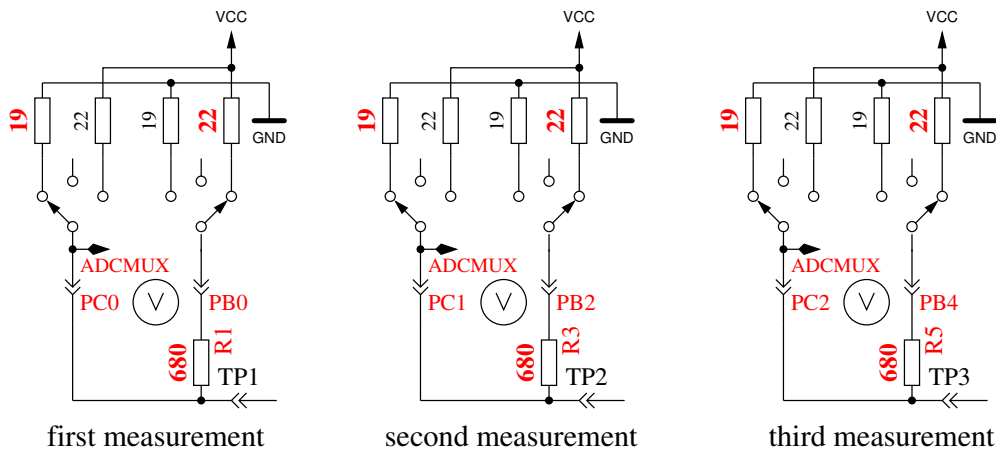

Figure 5.60. Measurement of internal resistance of Port C switched to GND
5. **This step tests the capability of GND (-) connected 470kΩ resistors (H) to pull the test pins to GND.** Row 1 shows the text “RH-”. Row 2 should display zero for all three pins.
6. **This step tests the capability of VCC (+) connected 470kΩ resistors (H) to pull the test pins to VCC (+).** Row 1 shows the text “RH+”. The results are shown als difference to VCC and should be near zero. Great differences from the best value for test 5 and 6 are errors such as isolation problem, flux material or damaged port.
8. **Measuring of internal resistance of pin output switched to the GND signal.** This test and the follwing tests will only be done, if the option AUTO_CAL is selected. The internal resistance of the port C outputs switched to GND (-) are measured with the current of to VCC (+) switched 680Ω resistors, see Figure 5.60. Only the three pins of the ADC port are measured, the resistor port B (PB0,PB2 and PB4) can not be measured without hardware modification. Is is assumed that the port resistance of the different ports are nearly identical. The resistor value will be shown in the next test.